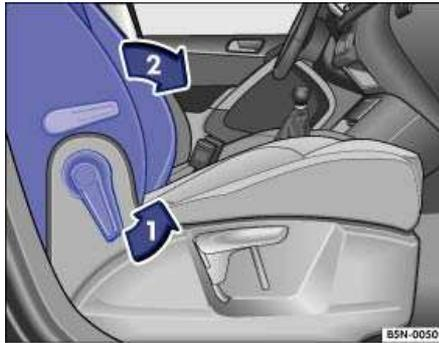

Fig. 58 Folding passenger seat backrest forward
- Hold the passenger backrest firmly ⇒ Fig. 58 on the side and unlock it (1).
- Let the spring pull the backrest forward (2) to the horizontal position.